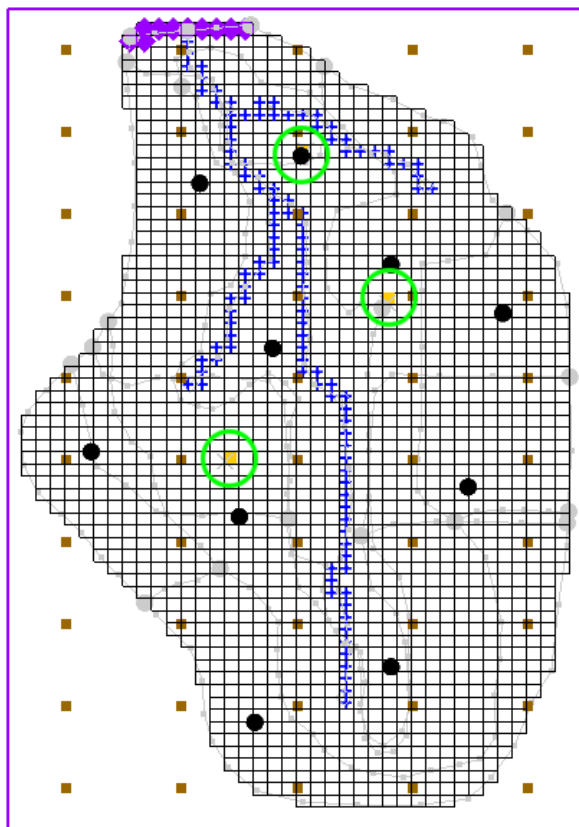

Figure 7 Location of pumping wells
Notice that there are three pumping wells in the model (Figure 7). For purposes of illustration, assume that a pump test was performed at each of these wells and the HK was estimated. Create a pilot point at each of these wells.
6. Using the **Create Scatter Points**  tool, create a scatter point at each of the pumping wells as shown in Figure 7 (the center of each green circle).